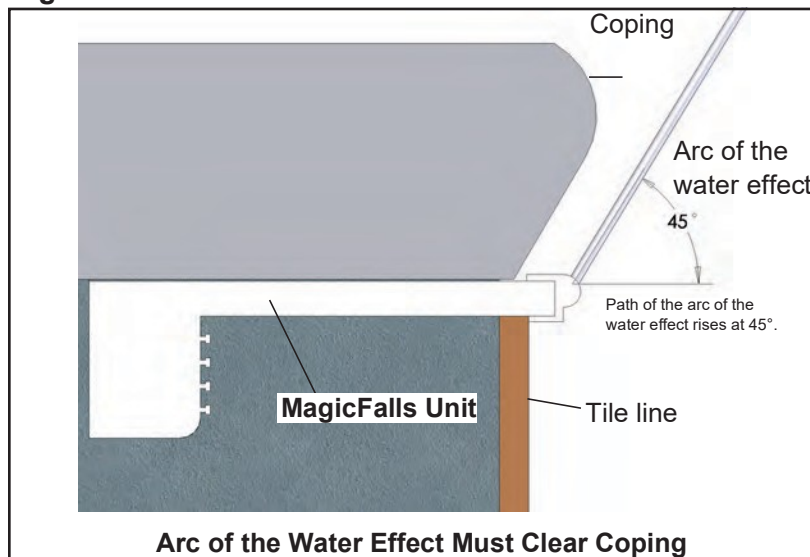

Figure 3
3. When installing an arc effect, like rain or sheet, be sure the water effect clears the overhanging coping (Figure 3). The arc of the water effect rises out of the waterfall at 45° .